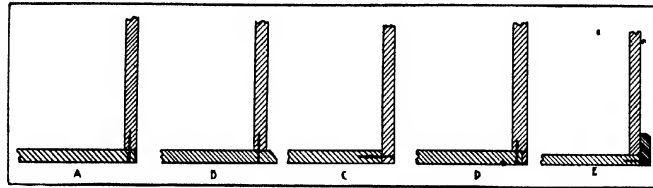

Fig. 284. Methods of Attaching Box Bottoms.
*The Bottoms of Boxes.* The plain or full bottom, Fig. 284, A, is likely to shrink (see dotted line), and it is held in place only by the friction of the nails. The extended bottom, Fig. 284, B, overcomes the objection to shrinkage and adds a decorative feature. The bottom may be set in, Fig. 284, C. This is stronger than the plain bottom, but the nail holes show. The bottom may be rabbeted in, Fig. 284, D. This is better
Reinforced bottom, Fig. 284, E. A plain or full bottom is sometimes covered by a base or cover strip to hide the joint and secure the bottom, as in tool chests. This strip may be mitered at the corners.